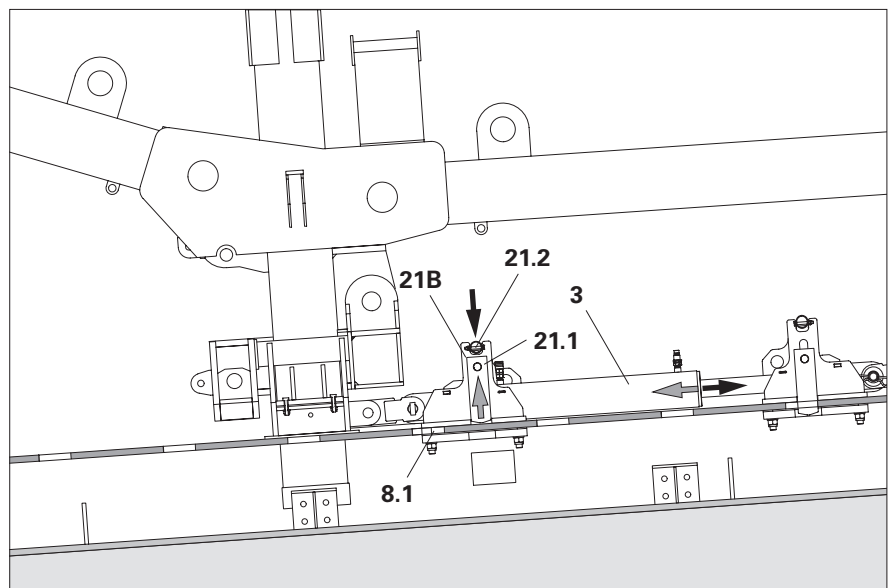

Fig. C1.03
2. Extend the drive cylinder (3) until the next section of rail (8.1). After leaving the previous section of rail, the release lever can then be released.
- The balanced cantilever equipment and drive catch head (21B) are moved forward. (Fig. C1.03)